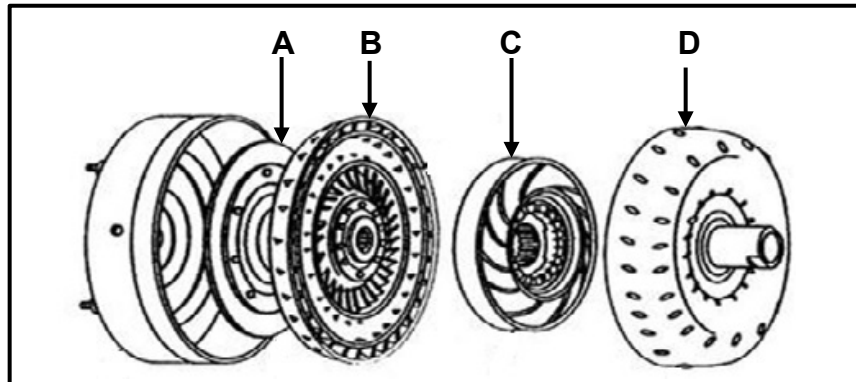

FIGURE 9.1
9.1 FIGURE 9.1 below shows an exploded view of a torque converter. Answer the questions that follow.